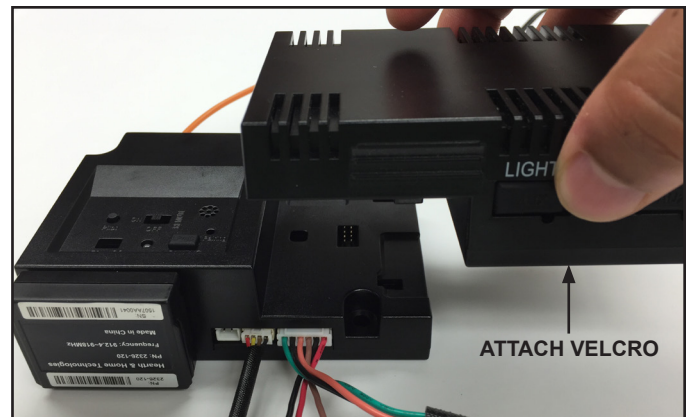

Figure 3 Connecting IFT-ACM and IFT-ECM
5. Attach velcro included with the IFT-ACM to the bottom of the ACM. See Figure 3.
6. Connect the IFT-ACM to the IFT-ECM by aligning the pins and tabs and pushing the IFT-ACM onto the IFT-ECM until both tabs latch in place. Ensure the IFT-ECM and IFT-ACM are aligned with each other and fastened securely. See Figure 3.